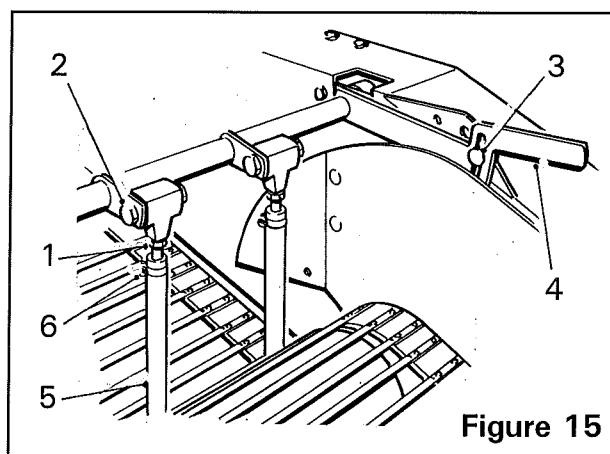

Figure 15
On early machines, each finger (*item 1, figure 15*) is mounted on a rubber spring block and is locked to the mounting tube with a nut and bolt. The fingers can be individually positioned by slackening the mounting bolts (*item 2, figure 15*) and rotating the fingers to the required position.
By releasing the adjuster handle clamp bolt (*item 3, figure 15*) and raising/lowering the handle (*item 4, figure 15*), all of the fingers can be moved as a set.
A plastic sleeve (*item 5, figure 15*) is fitted to each finger and is fastened with a hose clamp (*item 6, figure 15*). The sleeves are fitted to prevent bruising of the potatoes and should be replaced when they wear through or are lost.